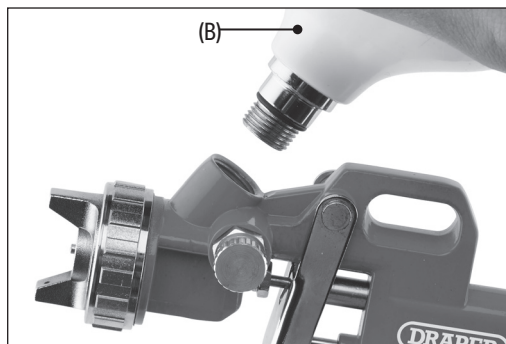

Fig. 6
1. Attach the paint cup (B) to the threaded socket at the top of the spray gun body (Fig. 6).